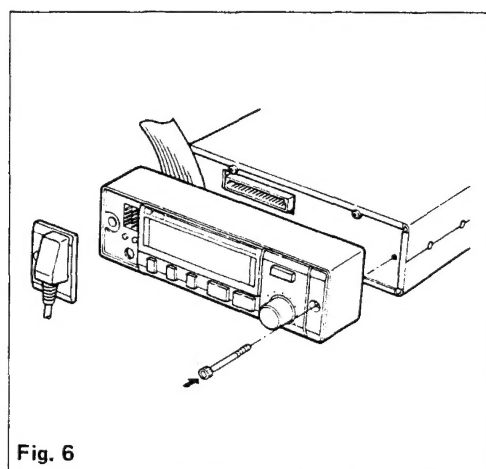

Fig. 6
- 4) Re-attach the CONTROL HEAD to the main body. (Fig. 6)